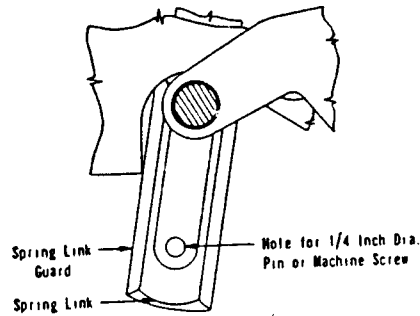

Fig. 4A
1. On K-1600, K-1600S, K-2000 and K-2000S circuit breakers, at each of the two spring guards, loosely install 1/4 inch diameter pins or machine screws. (See Fig. 4A)
2. Insert a screwdriver or rod through the hole in the escutcheon box (4) and mechanism housing assembly (right-hand side when facing the front of the circuit breaker).
3. Using the top of the hole as the fulcrum and the screwdriver or rod as the lever, depress the hold-up latch (5) at "A" and, at the same time, pull the operating handle downward to slowly close the circuit breaker contacts.